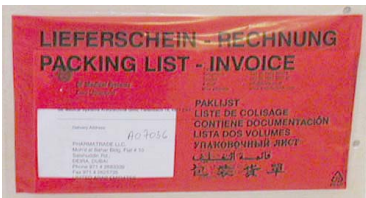

**Figure 3-3 Drop and Tilt Indicator**
- Inspect the Drop and Tilt Indicator for evidence of accidental shock or tilting during transit (damage incident, see: Figure 3-3 below).